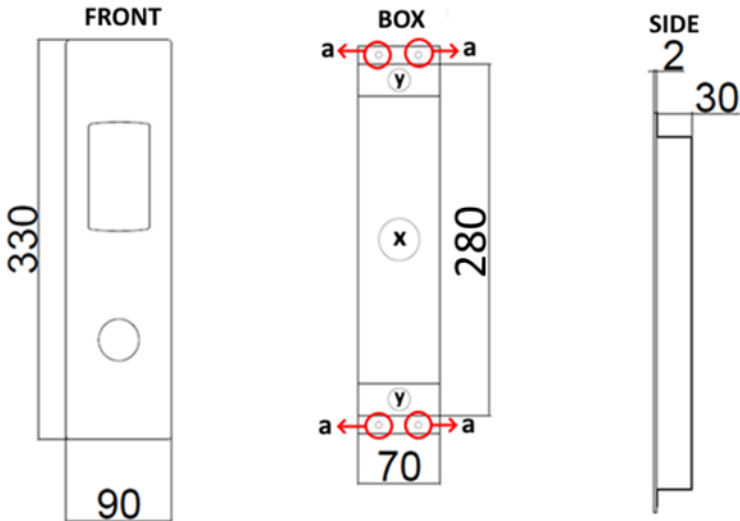

Figure 1
- 1.2 Drill a hole in the wall where you can insert the back box of LOP. Dimensions are available in Figure 1 and drawing sent to our customers.